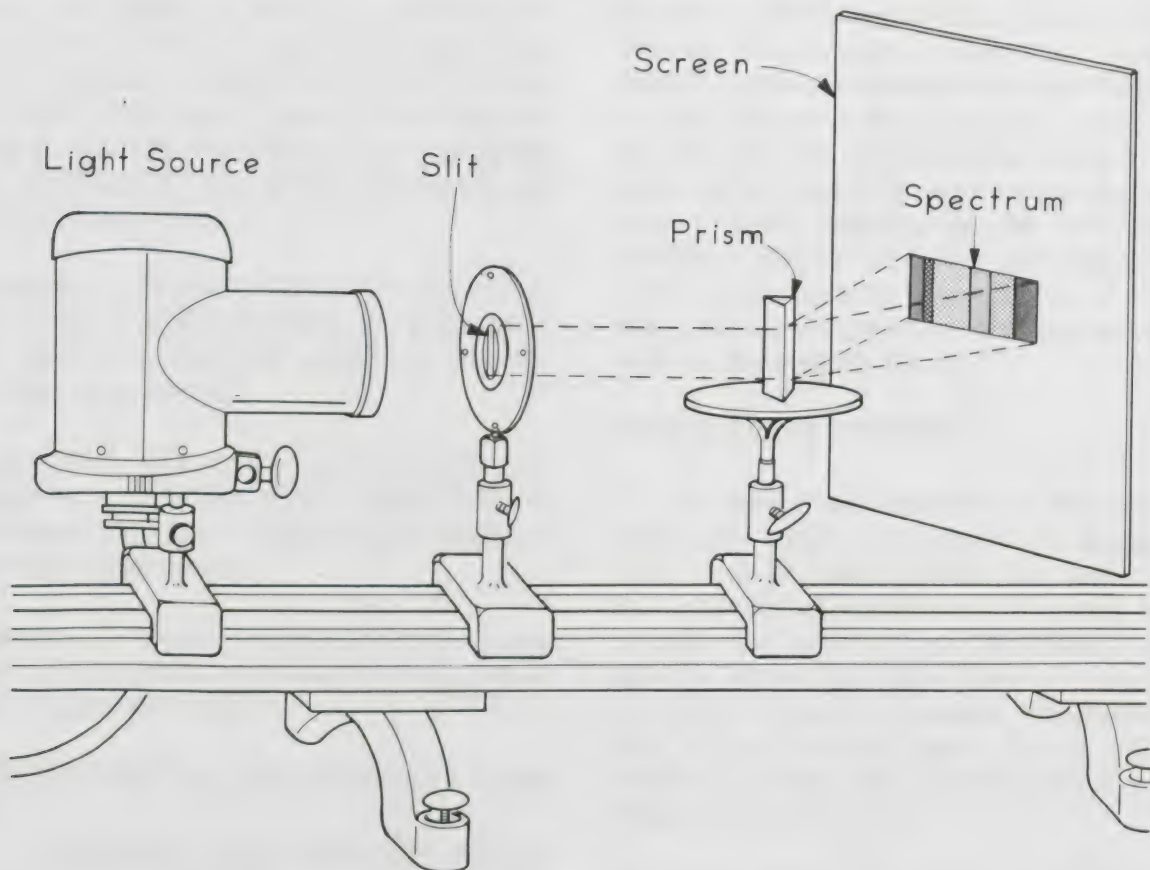

Figure 6.
Place one of the prisms on the table so that it intercepts the beam from the slit as shown in Figure 6.
1. Adjust the angle of the prism and the position of a white screen until you can see a bright band of colors on the screen as shown in Figure 6. What colors do you see?